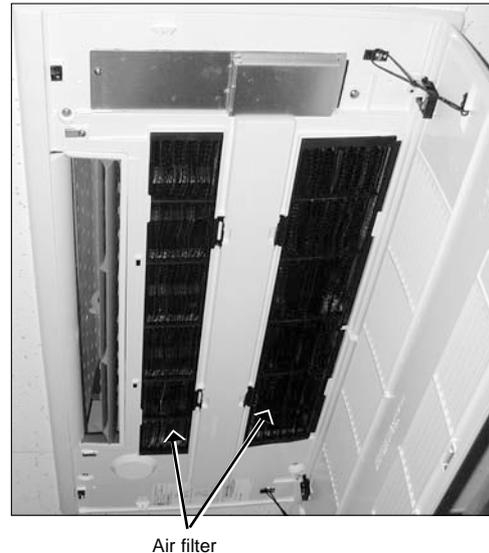

Figure 1
- (1) Press the **PUSH** of the air intake grille.(See Figure 1)
- (2) Put your figure on the both ends of nut of the air intake grille and put it down after the grille clicked.
- (1) Press the **PUSH** of air intake grille, and pull down the both ends of nut with your fingers after the grille clicked. (See Figure 1)